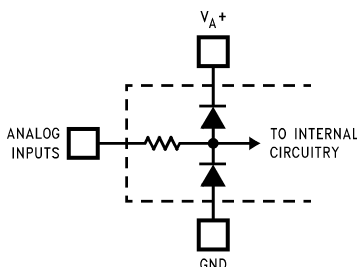

Figure 5.
- (1) Two on-chip diodes are tied to each analog input through a series resistor as shown below. Input voltage magnitude up to 5V above V_{A+} or 5V below GND will not damage this device. However, errors in the A/D conversion can occur (if these diodes are forward biased by more than 50 mV) if the input voltage magnitude of selected or unselected analog input go above V_{A+} or below GND by more than 50 mV. As an example, if V_{A+} is $3.0 V_{DC}$, full-scale input voltage must be $\leq 3.05 V_{DC}$ to ensure accurate conversions. See Figure 5.
- (2) To ensure accuracy, it is required that the V_{A+} and V_{D+} be connected together to the same power supply with separate bypass capacitors at each V^+ pin.
- (3) With the test condition for V_{REF} ($V_{REF+} - V_{REF-}$) given as +2.500V the 12-bit LSB is 610 μV and the 8-bit LSB is 9.8 mV.
- (4) Typical figures are at $T_J = T_A = 25^\circ\text{C}$ and represent most likely parametric norm.
- (5) Tested limits are specified to AOQL (Average Outgoing Quality Level).